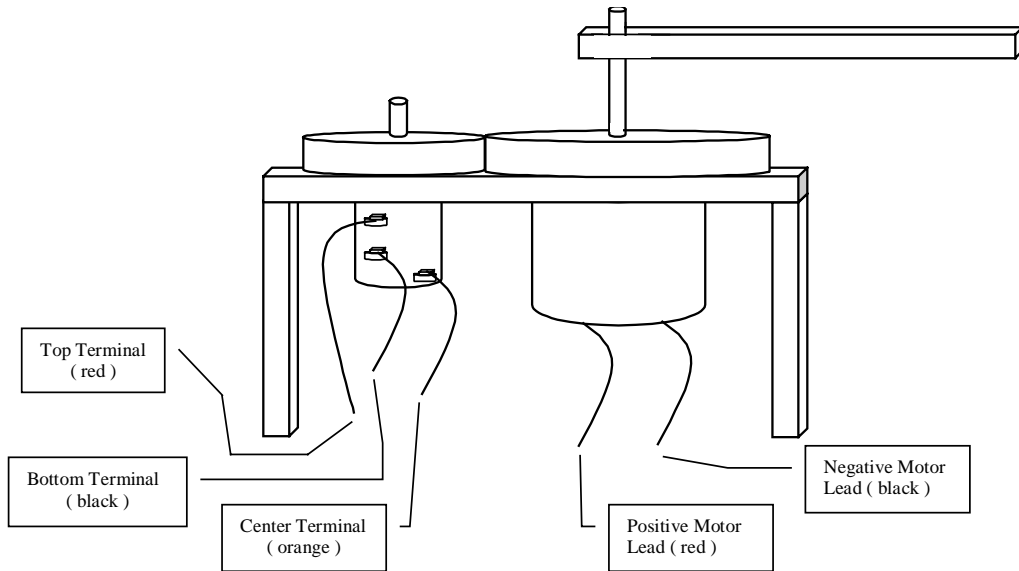

Figure 23: Horizontal Pendulum Set-up
14. You are now ready to connect a horizontal pendulum to your controller (see Fig. 23). Replace the process variable pot (the first pot) with the ten turn pot that is geared to the motor on your pendulum. Physically remove the process variable pot from the board, and insert the wires from the ten turn pot into the locations of the pins you removed. The orange wire is connected to the center terminal, the red wire (from the top terminal of the pot) to +15 volts, and the black wire (from the bottom terminal of the pot) to ground. Now, you will test to insure that the pot is functioning correctly the same way you did before. The voltage at the output of the process variable op amp should increase as the ten turn pot is turned clockwise. If this is not happening, try switching the two outside wires.
16. You are now ready to test the controller. First, connect your multimeter to the output of the error op amp. Second, turn all pots as far counterclockwise as possible. Then turn the set point pot $\frac{1}{2}$ turn back. Third, turn on the power. Fourth, move the pendulum until the error is small (about ± 0.5 volts). Then, turn the proportional pot about $\frac{1}{4}$ turn clockwise (the locations of the various pots can be found in figure 23). Now, slowly turn the pot that controls the power op amp clockwise until the system starts to move. As it moves watch the error. If the error is increasing, switch the red and black lead from the motor. If this does not correct the problem, check your circuit with figure 23 on the next page.